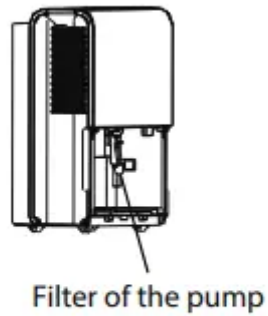

Fig. 12
- Cleaning the pump filter: Remove the bucket from the unit, take out the pump, and clean the pump filter (See Fig. 12).